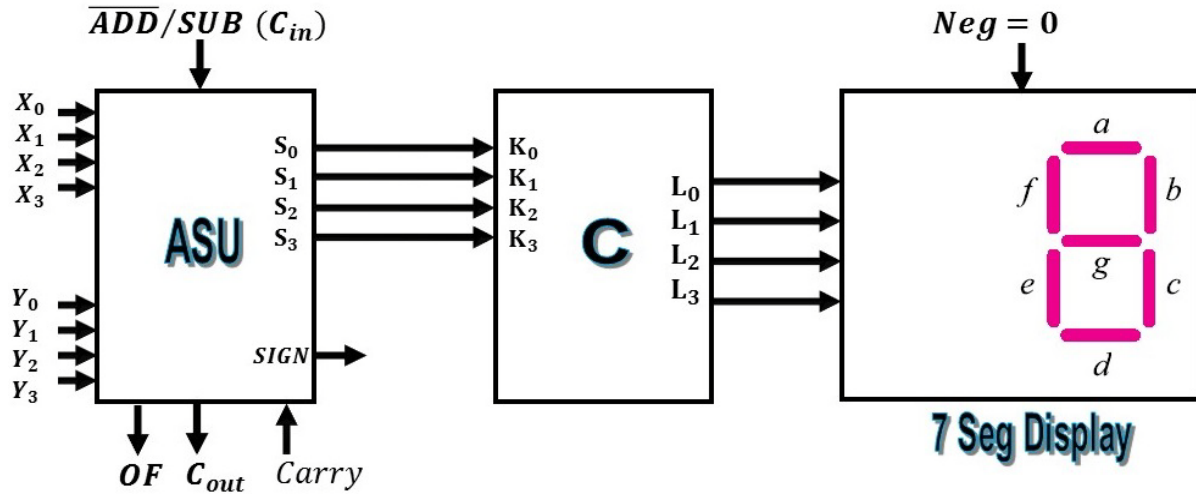

Figure 2. Block Diagram for PART B implementation
4. Minimize the logic expressions for your customized L3, L2, L1 and L0 -signals. These minimized logic expressions are to be implemented as outputs of the combinational circuit C in Figure 2 (shown below).
6. Complete the wiring and pin assignments by following the connections described in the Figure 2 (Typical Schematic generated using Quartus II depicted in).